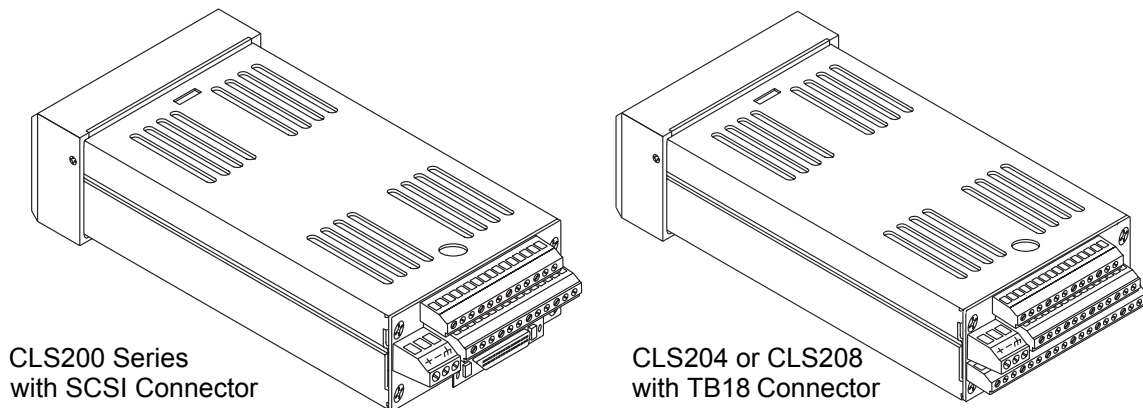

Figure 1.3 CLS200 Rear Views
- A 50-pin SCSI cable connects the digital inputs and outputs to the 50-terminal block (TB50). The CLS204 and CLS208 are available with an 18-terminal block (TB18) in place of the SCSI connector, as shown in *Figure 1.3*.